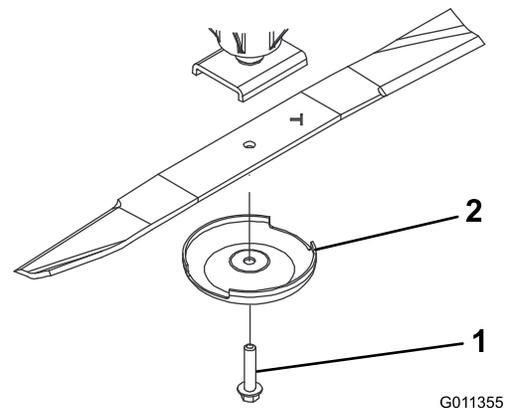

Figure 83
- Grasp the end of the blade using a rag or thickly padded glove. Remove the blade bolt, anti-scalp cup, and blade from the spindle shaft (Figure 83).
- Install the blade, sail facing toward the cutting deck, with the anti-scalp cup and blade bolt (Figure 83). Tighten blade bolt to 115–149 N-m (85–110 ft-lb).